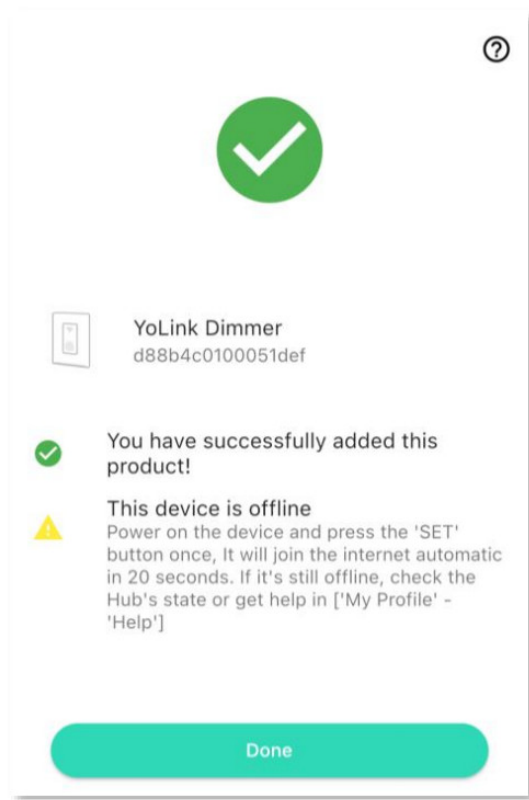

Figure 2
9. Tap Done as shown in Figure 2.